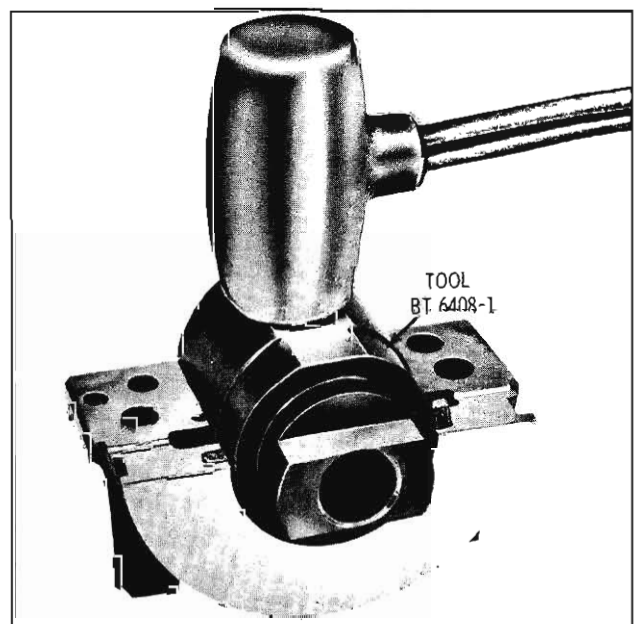

Fig. 3-453 Installing Rear Main Oil Seal—Lower Half
8. No. 5 bearing - install new asbestos oil seal in the rear main bearing cap. (REAR MAIN BEARING OIL SEAL) (Fig. 3-453)
2. Using Seal Installer BT-6408-1, hammer seal into groove. (Fig. 3-453)
NOTE: To check if seal is fully seated in the bearing cap, slide Tool BT-6408-1 away from seal. With Tool BT-6408-1 fully seated in the bearing cap, slide tool against the seal. If undercut area of tool slides over the seal, the seal is fully seated. If tool butts against the seal, the seal must be driven further into the seal groove. Rotate tool before cutting off excess seal packing. (Fig. 3-453)
3. Hold Tool BT-6408-1 as in Fig. 3-453. Cut seal 1/16" from bearing surface. Taper end of seal into a point. With screwdriver, pack seal fibers towards center, away from edges. Rotate seal installer to cut seal between notch and handle.